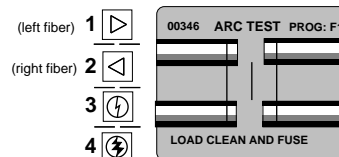

Figure 63
c) Prepare and load the fibers as for a normal manual splice (Figure 63).